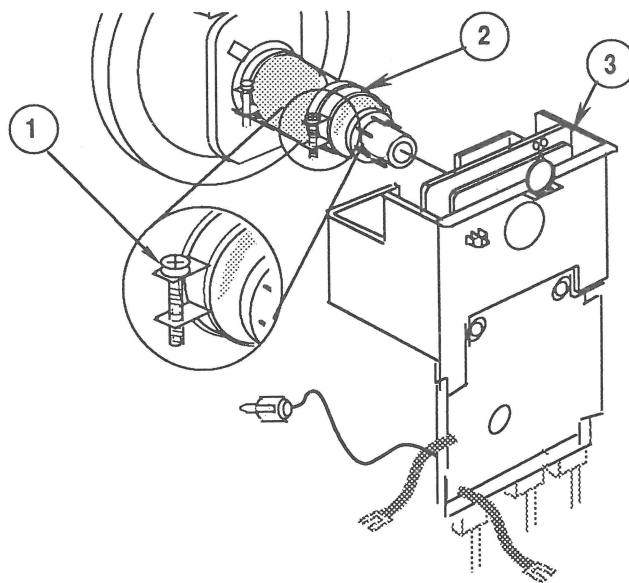

FIGURE 29
9. Loosen the screw (Figure 29, #1) on the ring clamp that secures the CRT board to the neck of the CRT (Figure 29, #2).
10. Remove the CRT board from the neck of the CRT. To do this, grab with both hands the metal cover (Figure 29, #3) that protects the CRT board, and carefully pull the CRT board straight back off the CRT.